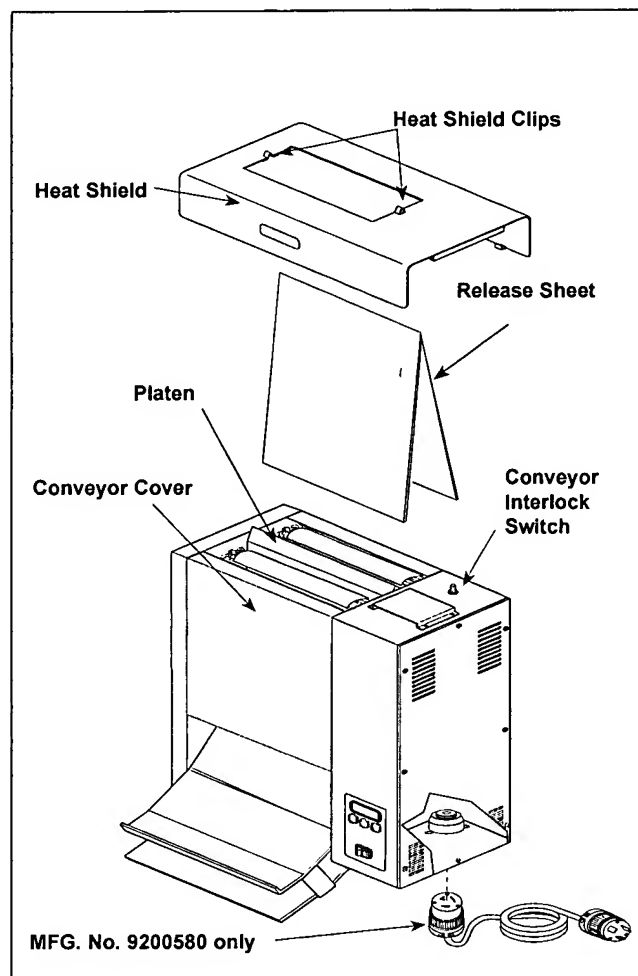

Figure 3. Installing Release Sheet
4. Install the release sheet by draping it over both sides of the platen surface. The crease should be centered directly on top of the platen (Figure 3).
5. Install the heat shield. The heat shield clips fit over the top of the platen securing the release sheet (Figure 3).
IMPORTANT: Make sure heat shield assy. is activating (depressing) the conveyor interlock switch (see Figure 3). The conveyors will not rotate unless the heat shield is in place and interlock switch is activated (depressed).
10. Install bun chute so hooks are installed over the lower rear yellow support rod. Install the heat shield aligning clips over platen (Figure 3).